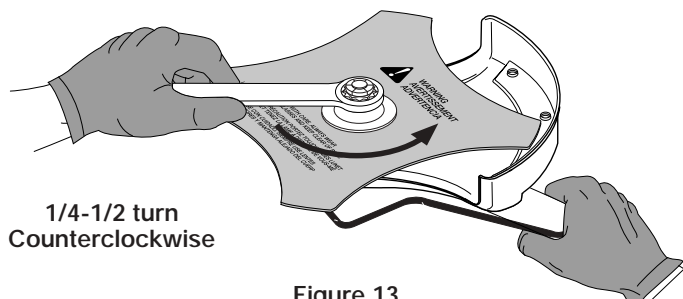

Figure 13
- Without a torque wrench, use a 5/8 inch closed-end or socket wrench, turning the nut until the blade retainer is snug against the shaft bushing. Make sure that the blade is installed correctly, then rotate the nut an additional 1/4 to 1/2 turn counterclockwise. See Figure 13.